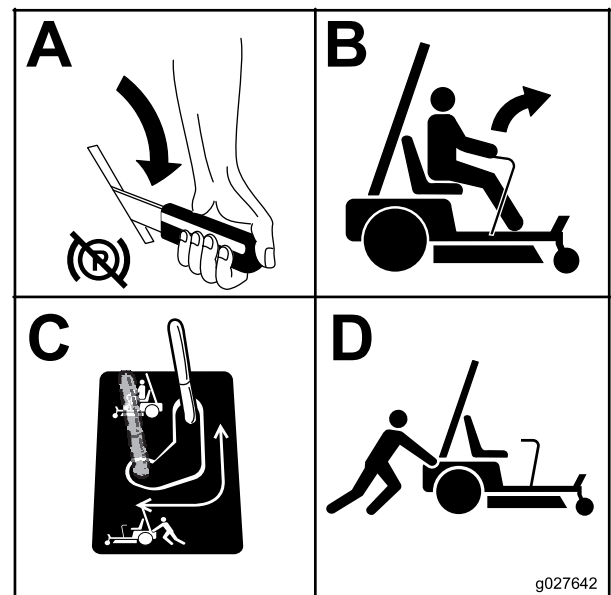

Figure 27
3. Do this procedure on each side of the machine Figure 27.
Move the bypass to the position for operating the machine (Figure 27) to engage the wheel motors.